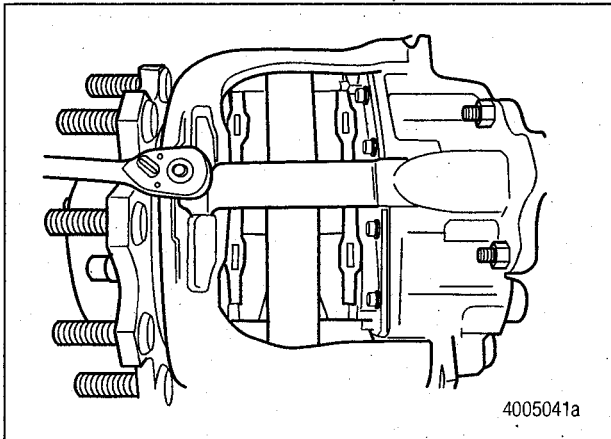

Figure 2
- A. Use a 17 mm wrench to remove the pad retainer bolt. Remove the pad retainer. Figure 2.